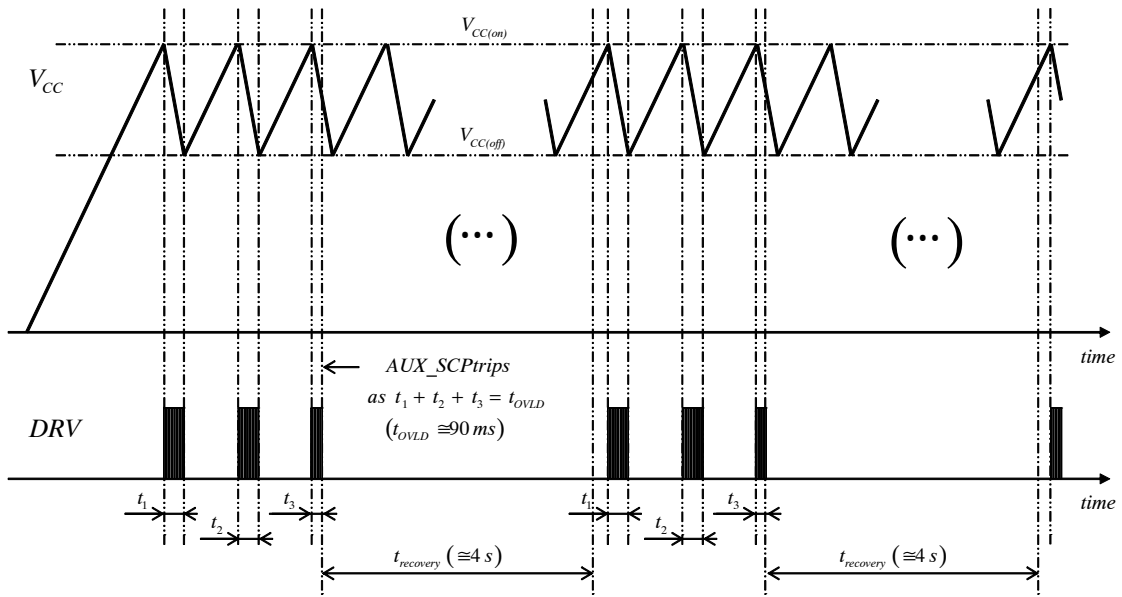

Figure 60. Start-up Sequence in a Load Short-circuit Situation (auto-recovery versions)
- If the load is shorted, the circuit will operate in hiccup mode with  $V_{CC}$  oscillating between  $V_{CC(off)}$  and  $V_{CC(on)}$  until the AUX\_SCP protection trips (AUX\_SCP is triggered if the ZCD pin voltage does not exceed 1 V within a 90-ms operation period of time thus indicating a short to ground of the ZCD pin or an excessive load preventing the output voltage from rising). The NCL30086A and NCL3006C latch off in this case. With the B and D versions, the AUX\_SCP protection forces the 4-s auto-recovery delay to reduce the operation duty-ratio. Figure 60 illustrates a start-up sequence with the output shorted to ground, in this second case.